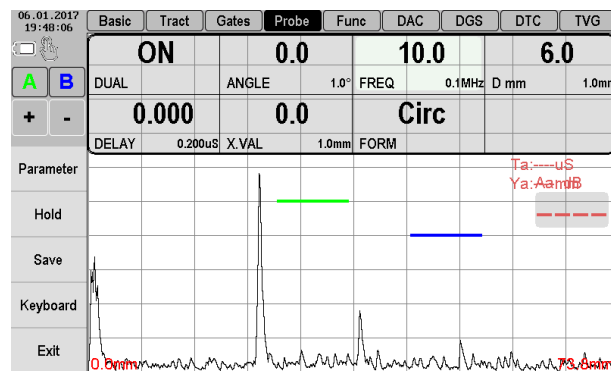

Figure 2.16 – Setting the operating frequency of the probe - «FREQ» parameter
2. Operating frequency of the probe «FREQ» (Figure 2.16).